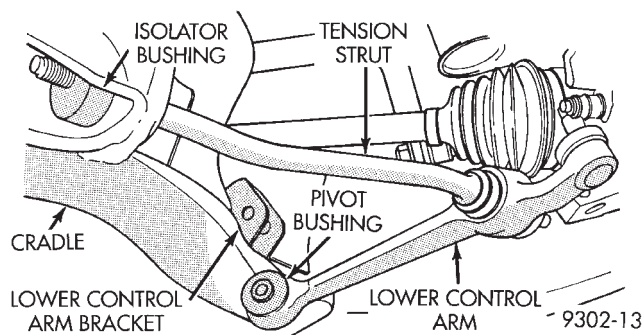

Fig. 5 Lower Control Arm Removal From Cradle
(7) Separate lower control arm and tension strut from the cradle as an assembly. Lower control arm is removed from cradle, by first removing pivot bushing from cradle and then sliding tension strut out of isolator bushing (Fig. 5).
(1) Install the lower control arm on the cradle using the following sequence. Install tension strut and isolator bushing into cradle first, then install lower control arm pivot bushing into bracket on cradle (Fig. 5).